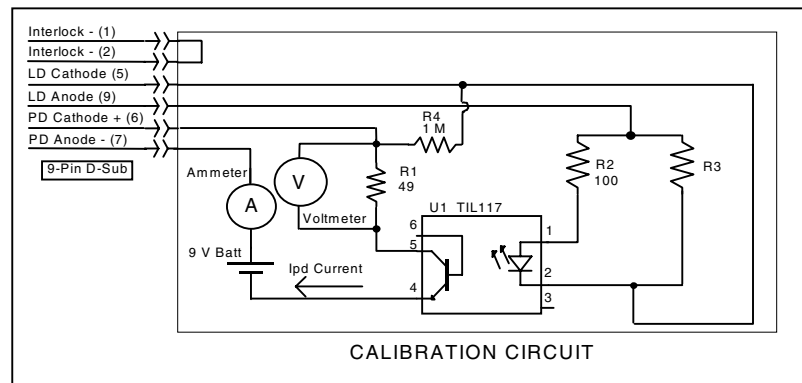

Figure 3.1 IPD Calibration Circuit
- With the LASER output off, connect a calibrated ammeter to the PD Anode output of the LDX-3500 Series Precision Current Source, and connect the circuit of Figure 3.1 to the laser and PD outputs ( $R3 = 5 \Omega$ , LDX-3565;  $5 \Omega$ , LDX-3545; or  $10 \Omega$ , LDX-3525).
If a calibrated ammeter (with 0.1 mA resolution) is not available, use a zero-Ohm jumper in place of the ammeter. Then, place a calibrated DMM (with 0.1 mV resolution) to measure the voltage across the resistor, R1, as shown in Figure 3.1.